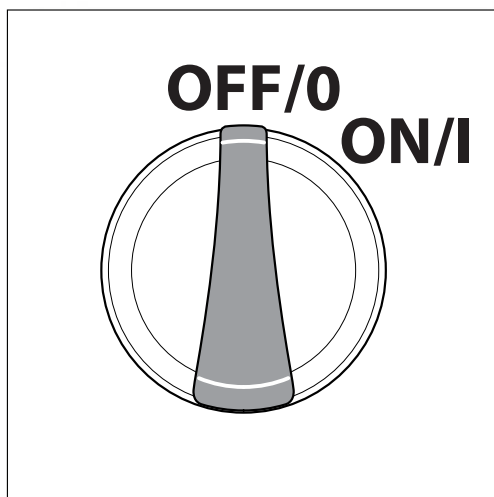
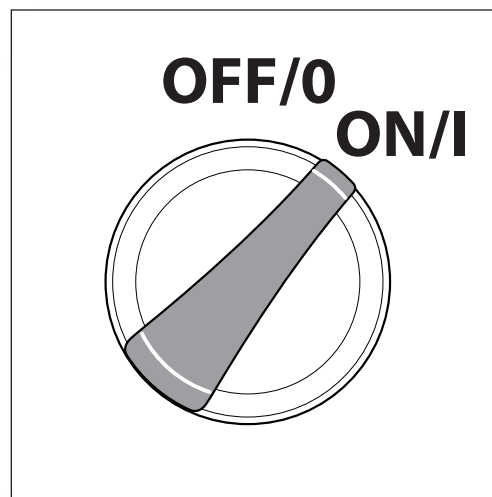

Fig. 18
Fig. 19
- Make sure the “ON/OFF” switch is in the “OFF” position. The power switch has international symbols for ‘on’ and ‘off’: On (I) Off (O), (**Fig. 18 & Fig. 19**).